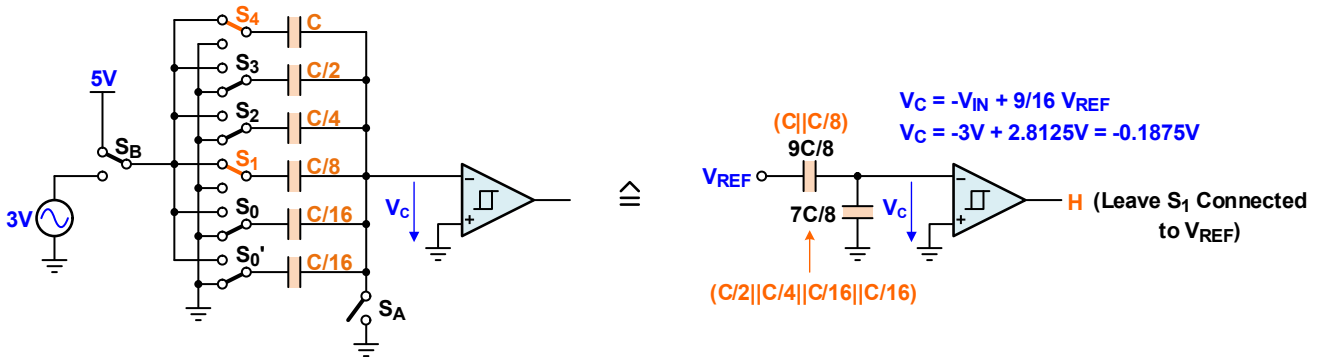

Figure 10. Bit 1: Because  $V_O = H$ , Bit 1 = 1. Therefore,  $S_1$  Must Remain in its Current Position
**Bit 1:** The fourth conversion step determines Bit 1 by connecting  $C/8$  to  $V_{REF}$  using  $S_1$ . The divider ratio changes to  $X = 9/16$ , causing a comparator input of  $V_C = -0.1875V$ . This turns the comparator output high and sets Bit 1 to 1. It also means that  $S_1$  must remain in the present position for the rest of the conversion process (Figure 10).